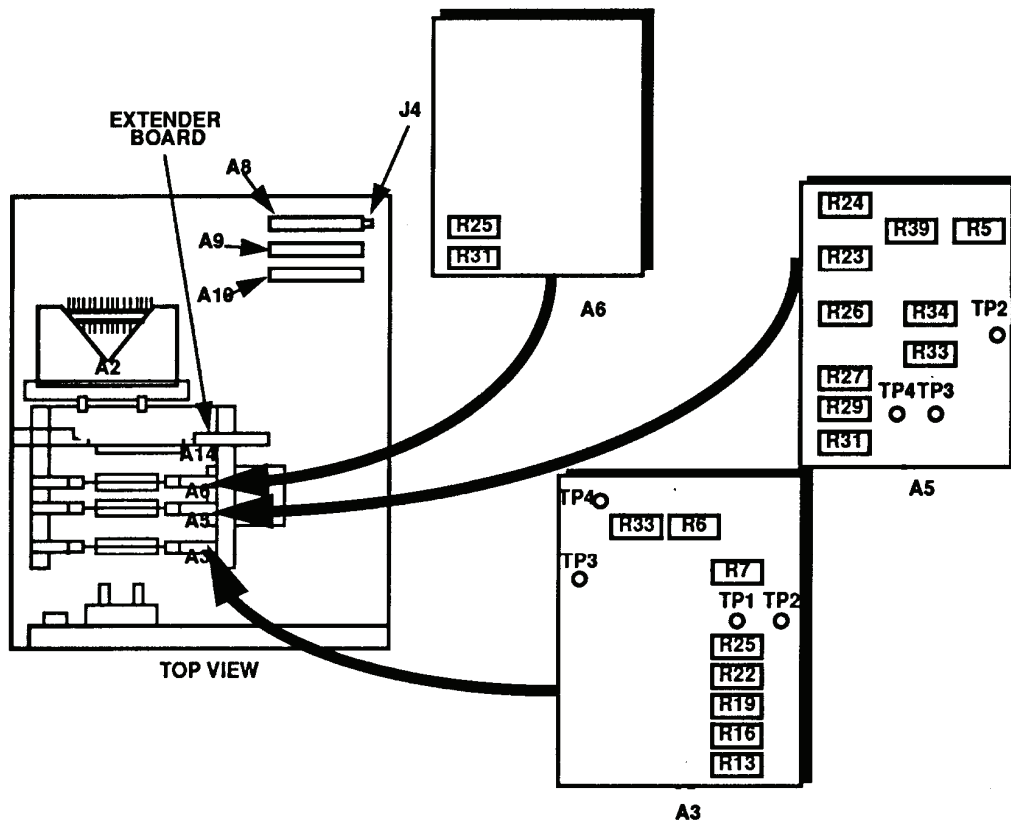

Figure 1. Test instrument – adjustment and test point locations.
(1) Set **POWER** switch to **OFF**.
(2) Remove cover from TI.
(3) Remove assembly A3 and reconnect using extender board (fig. 1).
- (4) Position controls as listed in (a) through (e) below:
- (5) Set measuring receiver to frequency counter mode.
- (6) Connect **TI RF OUTPUT** to measuring receiver power sensor and adjust **TUNING COARSE** and **FINE** control for an indication of 80.00000 MHz on measuring receiver.
- (7) Disconnect cable from **J4** on assembly **A8** (fig. 1) and adjust **A3R7** (fig. 1) for an indication of 0.00 on **FREQUENCY** display (R).
- (8) Reconnect cable to **J4** (fig. 1).
- (9) Connect audio analyzer **INPUT HIGH** to **A3TP2** and **A3TP1** (common) (fig. 1). Do not connect to chassis ground.
- (10) Set audio analyzer to measure V dc and adjust **A3R6** (fig. 1) for a -1.004 V dc indication on audio analyzer (R).
- (11) Move positive lead to A3TP4 (fig. 1).
- (12) Adjust A3R33 (fig. 1) for a 1.000 V dc indication on audio analyzer.
- (13) Repeat (6) above and adjust A3R25 (fig. 1) for 80.00 MHz on **FREQUENCY** display (R).
- (14) Set **TUNING RANGE** switch to **4-20 MHz**.
- (15) Adjust **COARSE** and **FINE TUNING** control for an indication of 20.00000 MHz on measuring receiver.
- (16) Adjust A3R22 (fig. 1) for 20.00 MHz on **FREQUENCY** display (R).
- (17) Set **TUNING RANGE** switch to **1-5 MHz**.
- (18) Adjust **COARSE** and **FINE TUNING** controls for an indication of 5.00000 MHz on measuring receiver.
- (19) Adjust A3R19 (fig. 1) for 5.000 MHz on **FREQUENCY** display (R).
- (20) Set **TUNING RANGE** switch to **.25-1.25MHz**.
- (21) Adjust **COARSE** and **FINE TUNING** controls for an indication of 1.25000 MHz on measuring receiver.
- (22) Adjust A3R16 (fig. 1) for 1.250 MHz on **FREQUENCY** display (R).
- (23) Set **TUNING RANGE** switch to **50-250 kHz**.
- (24) Adjust **COARSE** and **FINE TUNING** controls for an indication of 0.25000 MHz on measuring receiver.
- (25) Adjust A3R13 (fig. 1) for 250.0 kHz on **FREQUENCY** display (R).
- (26) Set **POWER** switch to **OFF** and reinstall assembly A3 and extender board (fig. 1) in proper locations.
- (27) Set **POWER** switch to **ON**.
- (1) Set **POWER** switch to **OFF**.
- (2) Remove assembly A6 and reconnect using extender board (fig. 1).
- (3) Set **POWER** switch to **ON**.